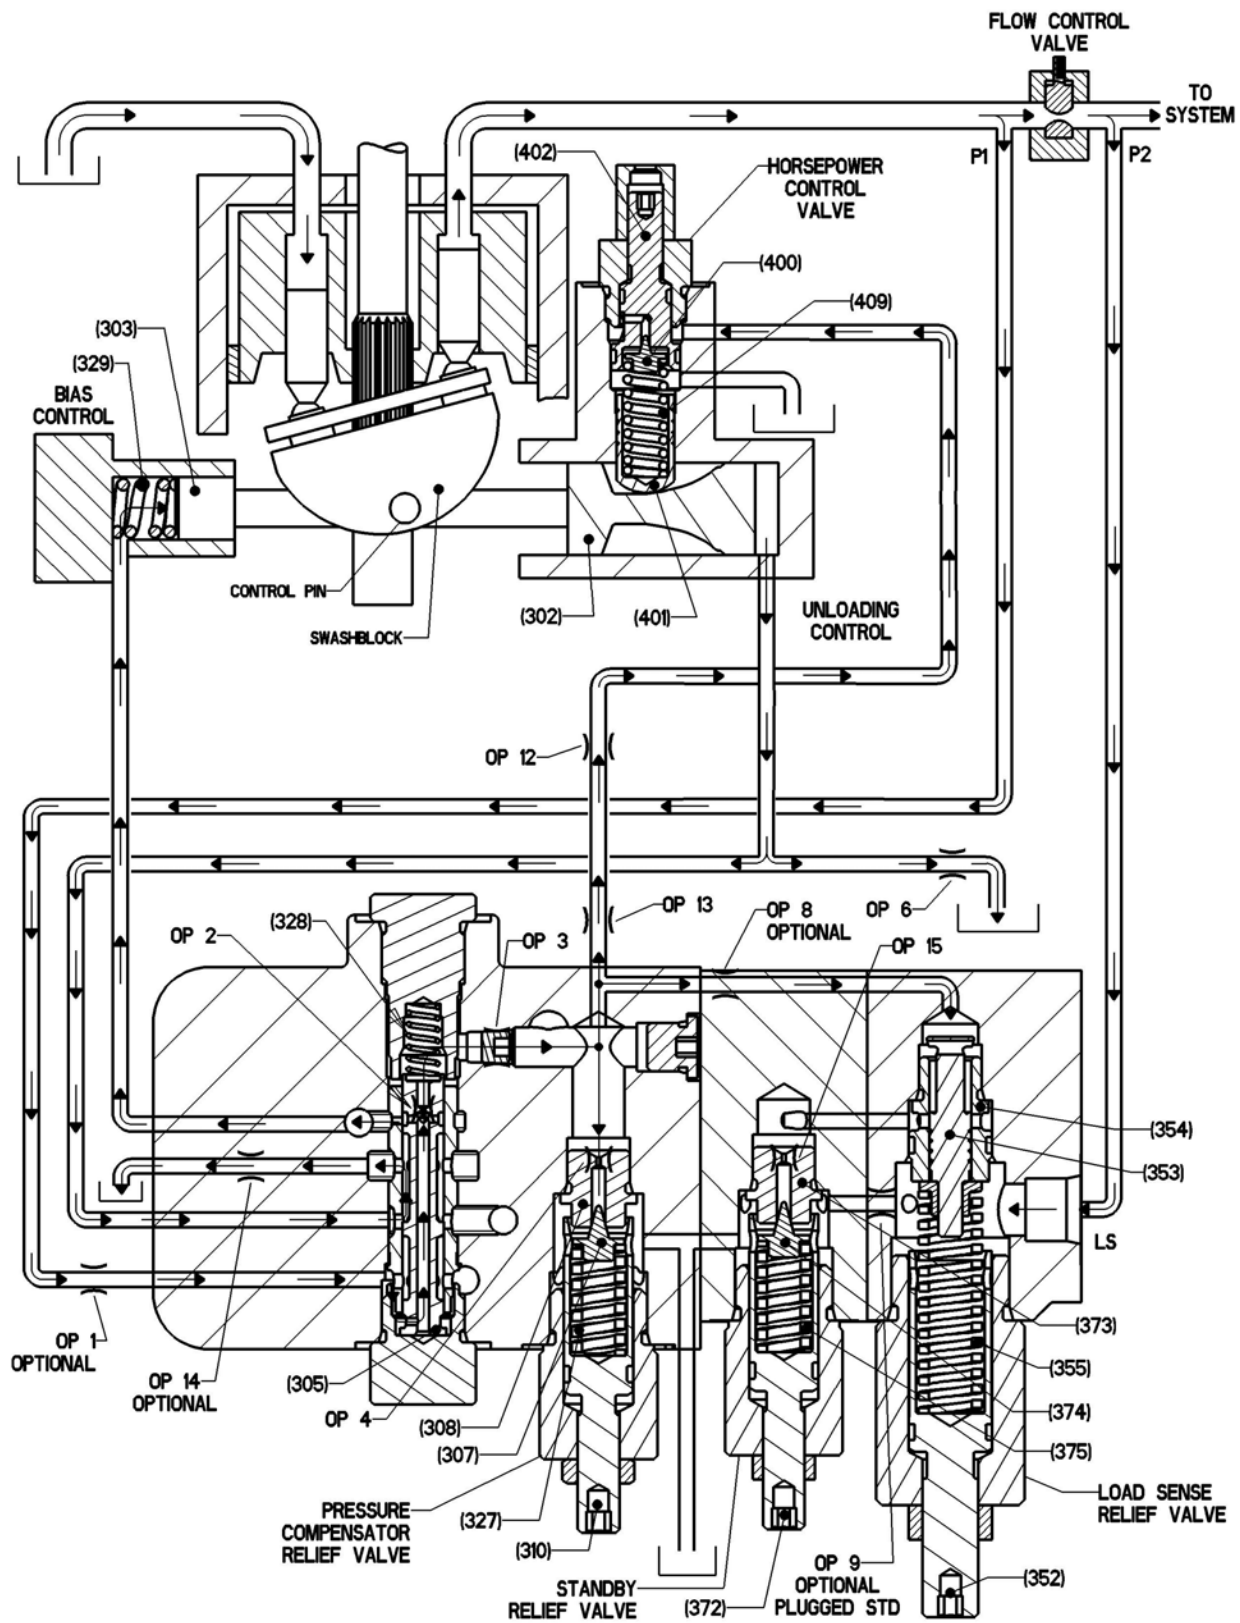

Figure 4. Raising Pressure - Loading
If the system pressure drops below preset compensating pressure, the relief valve poppet (307) seats and forces on the pressure compensating spool (305) are balanced, the pilot control valve spring (328) returns the spool to the original position (**Figure 4**), swashblock position shifts, and the pump increases delivery until the relief valve screw (310) preset pressure is reached again.